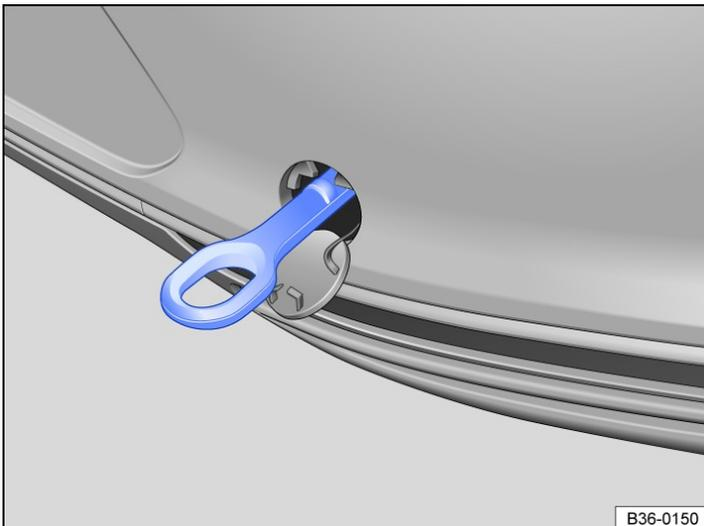

Fig. 2 On the right-hand side of the rear bumper: screwed-in towing eye.
- Turn the towing eye clockwise into the mounting and tighten as far as it will go → *Fig. 2* , → . Use a suitable object to screw the towing eye fully and securely into the mounting.